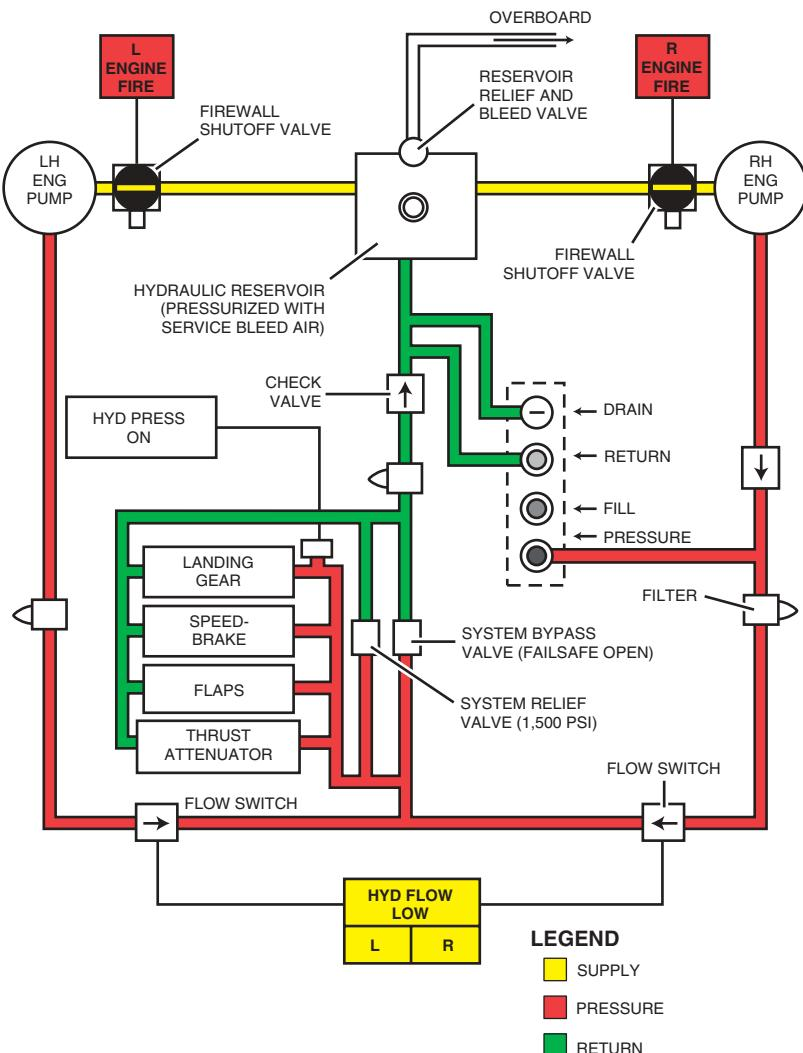

Figure SR-14. Hydraulic System Schematic
3. Open center system (Figure SR-14):